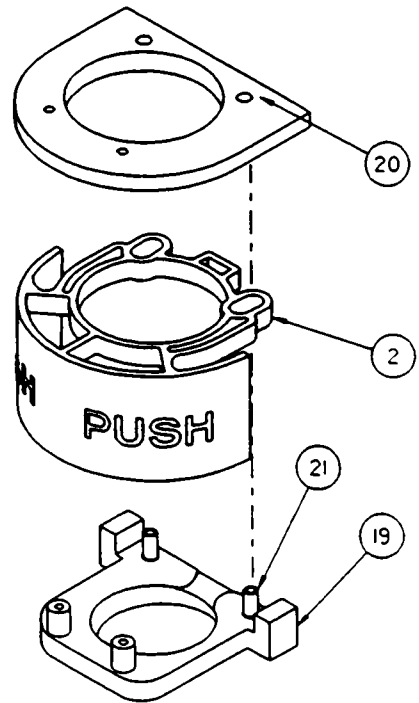

FIG. 7
9. Check stream height from bubbler. Stream height is factory set at 45 - 50 PSI. If supply pressure varies greatly from this, adjust screw on regulator. Clockwise adjustment will raise stream height and CCW adjustment will lower stream height. For best adjustment stream height should be approximately $1\frac{1}{2}$ " (38 mm) above the bubbler guard. (See Figure 7 and 9 on page 5)